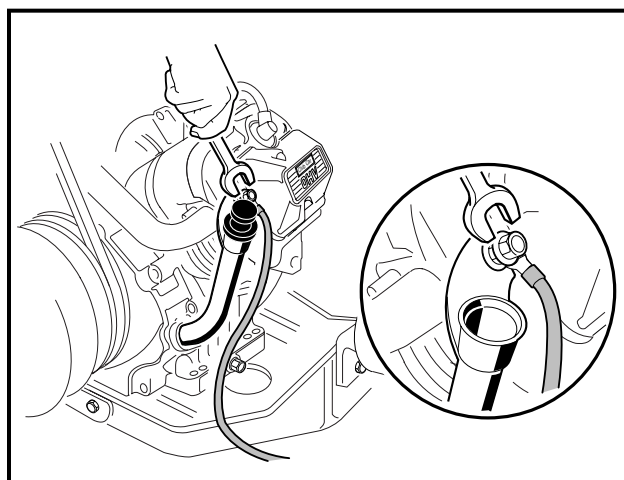

Figure 16-53 Engine Ground
27. Attach the ground wire to the mounting screw on the oil filler tube mounting bracket and tighten to 50 in-lb (5.7 N·m) (**Figure 16-53, Page 16-20**).